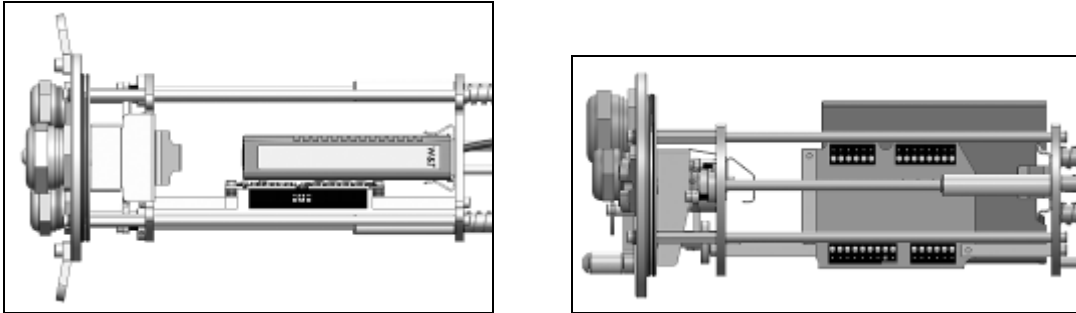

Figure 40 (a + b): Fitting the USB server Gigabit into the chassis (top view and right hand view)
6. Engage the USB server Gigabit to the DIN rail plate (**Figure 40**).